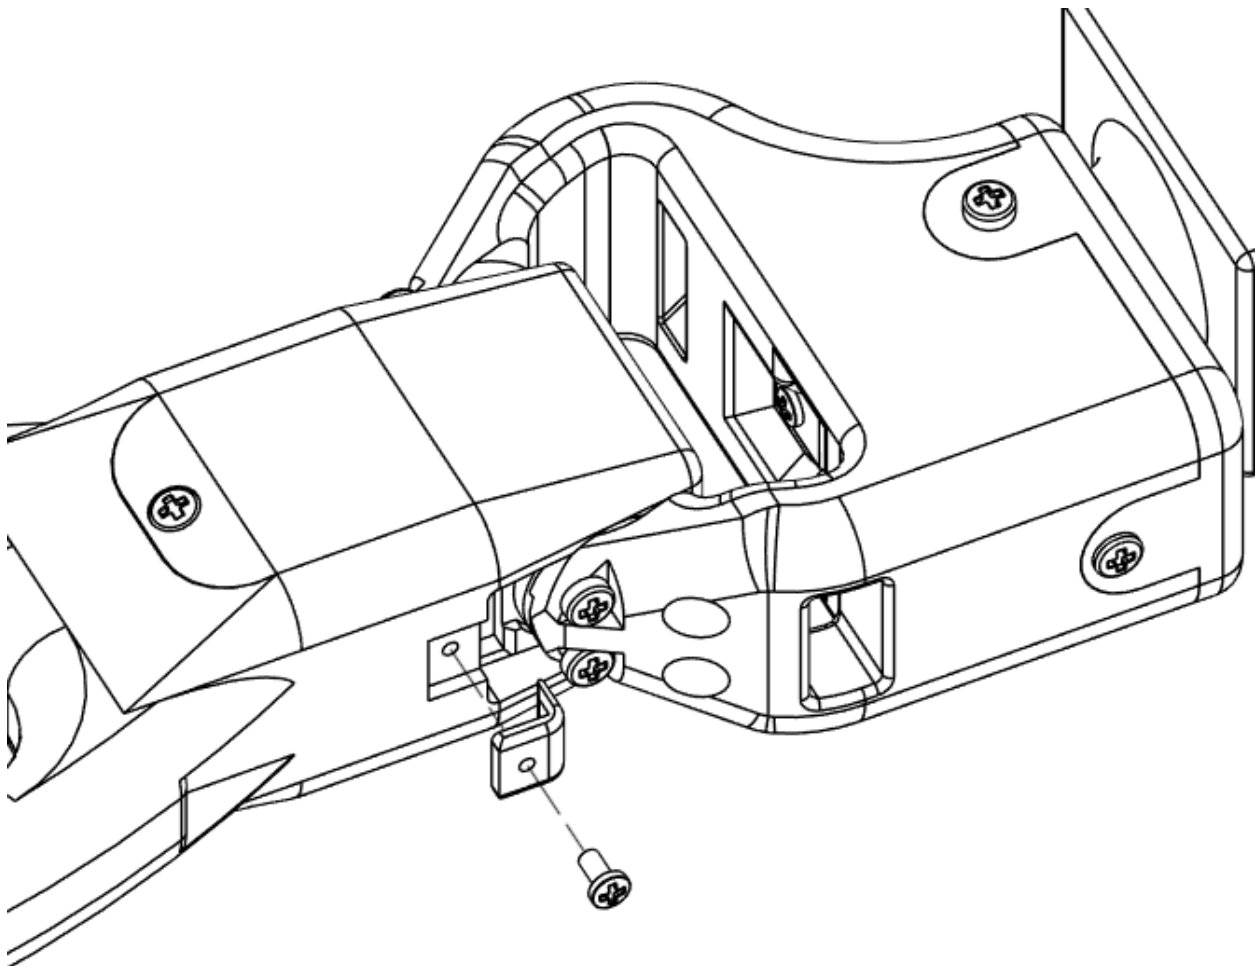

Figure 3.18 - Teleop Motor 4 Wire Clip Assembly
23. Fasten Teleop Motor 3/4 Wire Clip to Teleop Forearm as shown in Figure 3.18
- a. (1) M2x5mm
- b. **NOTE:** Arm Motor Wires not shown in Figure 3.18